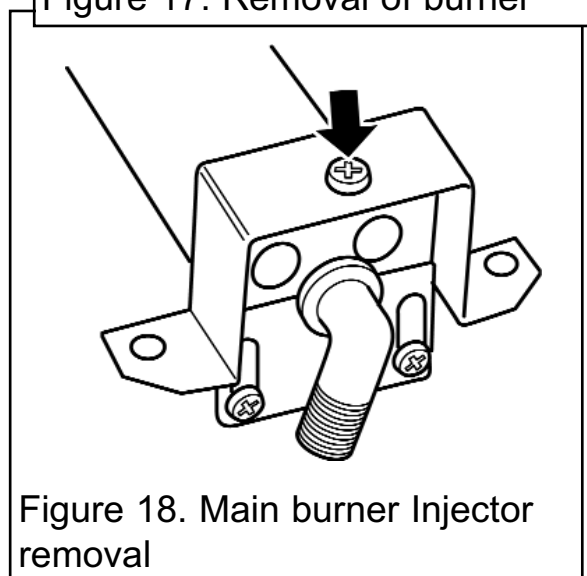

Figure 18. Main burner Injector removal
(See figure 18).
2. Remove the burner clamping screw (See figure 18)